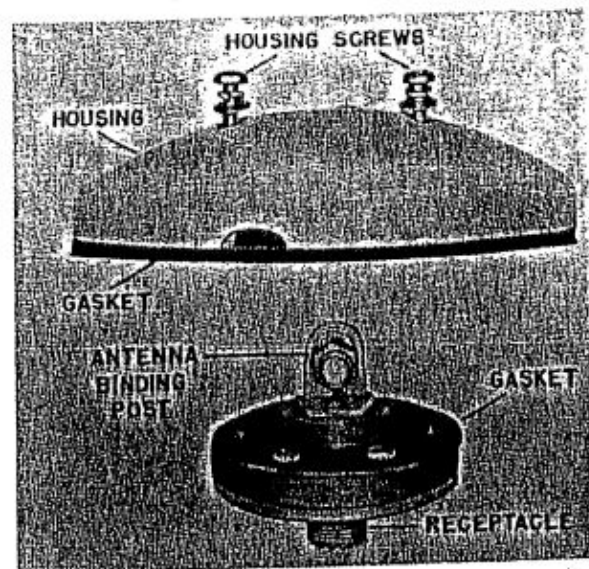

Figure 2-3. Coupling Unit CU-65/ARN-6, or
(5) **COUPLING UNIT CU-65/ARN-6 or CU-65A/ARN-6.**—Installation requires that a hole be cut in the skin of the airplane. (See figure 2-3.) Figure 6-14 gives the dimensions. Use No. 6-32 screws. The coupling unit must be located so that it can be connected to the receiver unit by either the 72 inch or